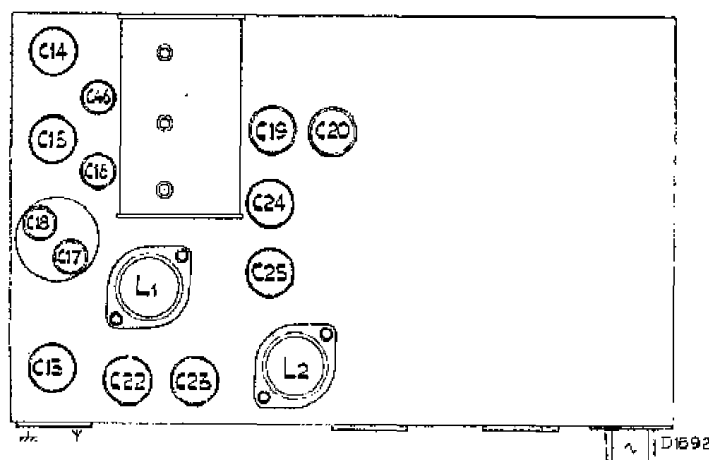
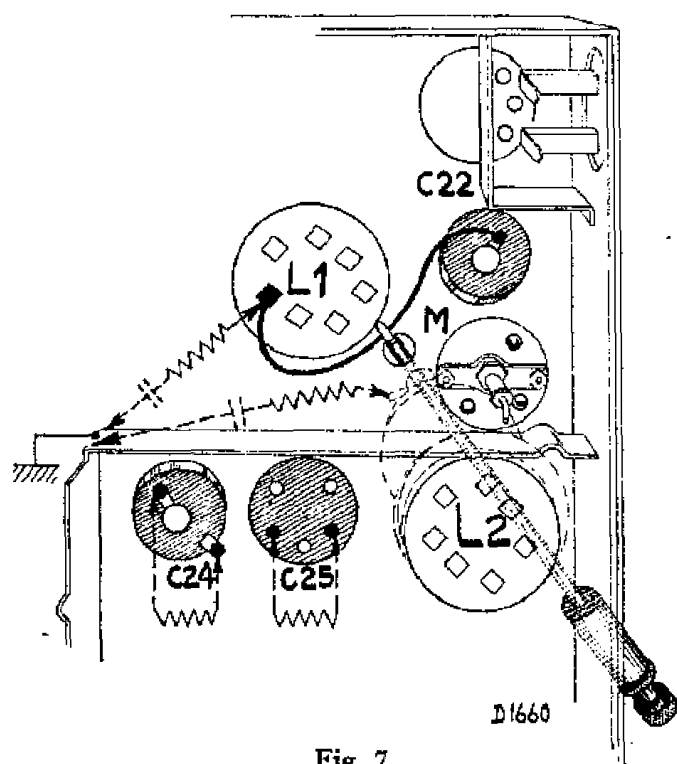

Fig. 5.
Fig. 7
2. Apply a modulated signal of 128 K.C. to the control grid of L1. (Fig. 7).
3. Fit a resistance of 25,000 ohms (Fig. 7) across C24, trim C25 (Fig. 5) to maximum output. After trimming remove the resistance.
4. Connect the auxiliary receiver or amplifier, namely, with test pin Code No. 09.991.620, for instance, through the hole M in the chassis, Fig. 7.